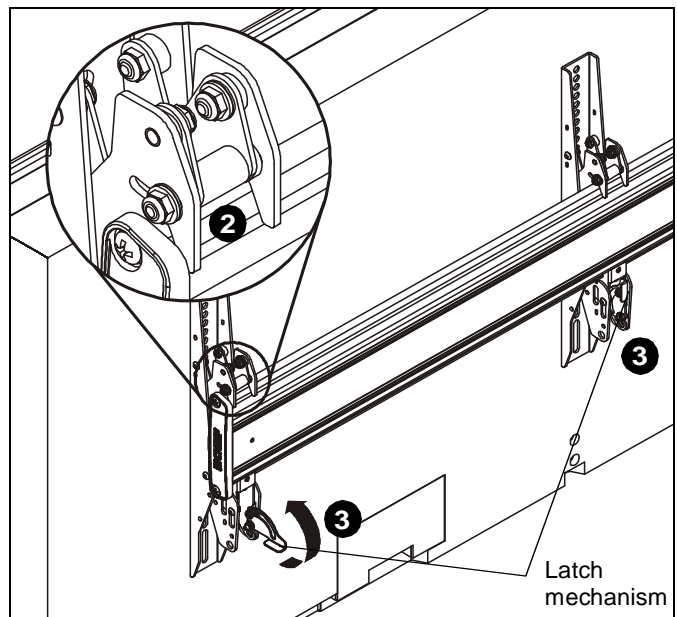

Figure 8
2. While supporting both sides of display, lower display onto one side of ceiling mount, hooking top of interface brackets onto rail of ceiling mount. (See Figure 8)
3. Raise the latch mechanism on both interface brackets to lock display in place. (See Figure 8)